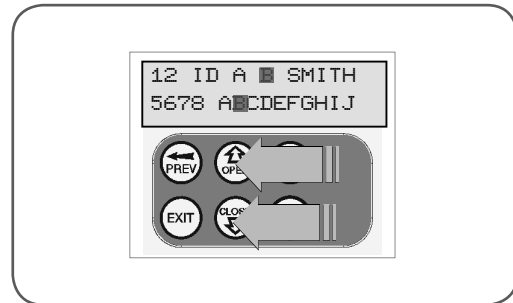

fig 34
2. Press UP or DOWN to scroll through and select new character (**Fig. 34**).